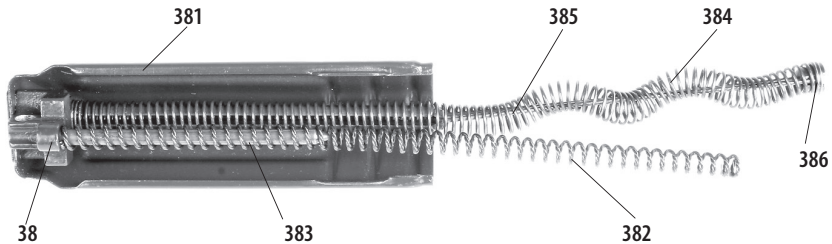

Fig. 15 *The return mechanism*
**The return mechanism** (Fig. 15) makes the bolt return to the extreme front position. It consists of return mechanism base 38 with receiver cover 381, striker spring 382, striker spring guide 383, return spring 384, return spring guide 385 and return spring locking block 386.